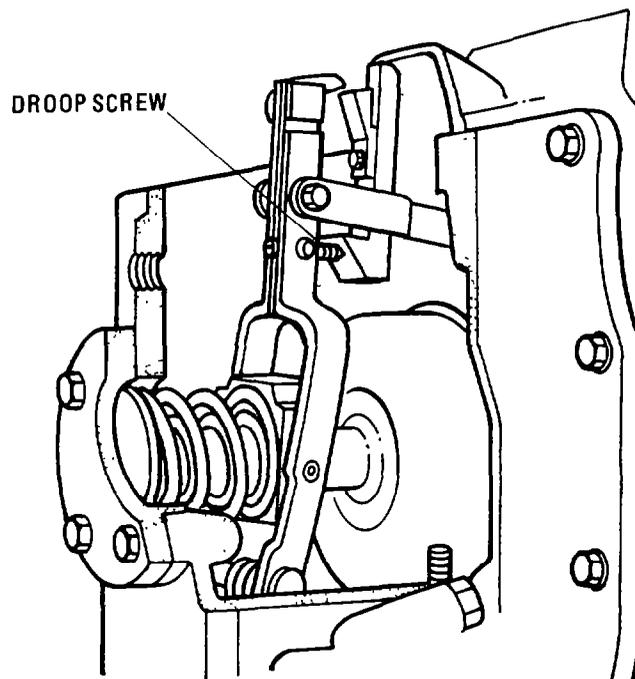

Fig. 117 — Droop Screw/Stop Plate Relationship at a Set Point
- i. Reduce the pump speed to 600 rev/min, adjust the droop screw to contact the stop plate and obtain a delivery of $113 \pm 3.0 - 117 \pm 3.0$ cc/500 strokes or $68 \pm 2.0 - 70.5 \pm 2.0$ cc/300 strokes (see fig. 117).